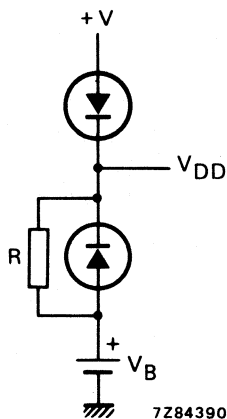

Fig. 6 Standby battery circuit.
Non-volatile information storage is allowed due to very low power dissipation when the memory is powered by a small standby battery. Figure 6 shows an optional standby power supply circuit for making a LOCMOS memory 'non-volatile'. When the usual power fails, a battery is used to sustain operation or maintain stored information. While normal power supply voltage is present, the battery is trickle-charged through a resistor (R) which sets the charging rate. In Fig. 6 the sustaining voltage is V_B , and +V is the ordinary voltage from a power supply. V_{DD} is connected to the power supply pin of the memory. Low-leakage diodes are recommended to conserve battery power.